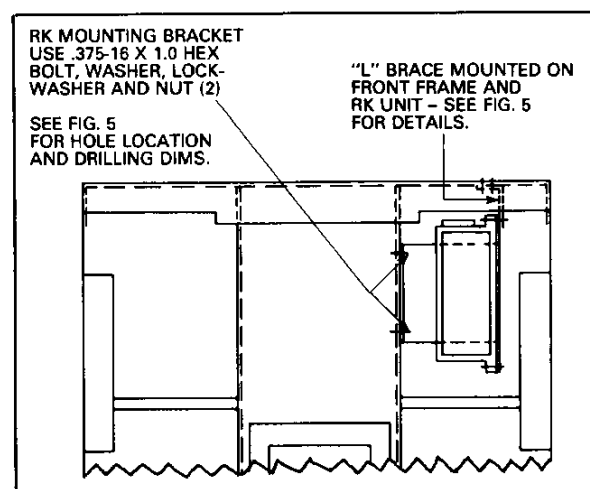

Fig. 6 Front View of Breaker
4. Line up the RK unit with the four (4) holes on the bracket and secure to the top using .190-32 x 1.0 fil. hd. screw (invert screw), lockwasher, flat washer, "L" brace and nut (See Fig. 6), now secure the bottom of RK unit to the bracket, using .190-32 x 1.0 fil. hd. screw, flat washer, lockwasher and nut. Note: The RK unit will be in a vertical position after being completely mounted.
6. Secure the complete assembly to the right side of the front frame (See Fig. 6) using .375-16 x 1.0 hex bolt, flat washer, lockwasher and nut.
7. Now secure the "L" brace to the front frame, the RK unit is now completely mounted and secured, Fig. 6.